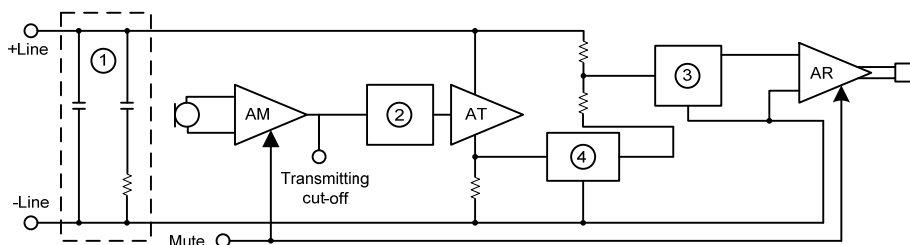

Fig. 4 Block interconnections
In fig.4 ①②③ and ④ are RC-links with the following functions: